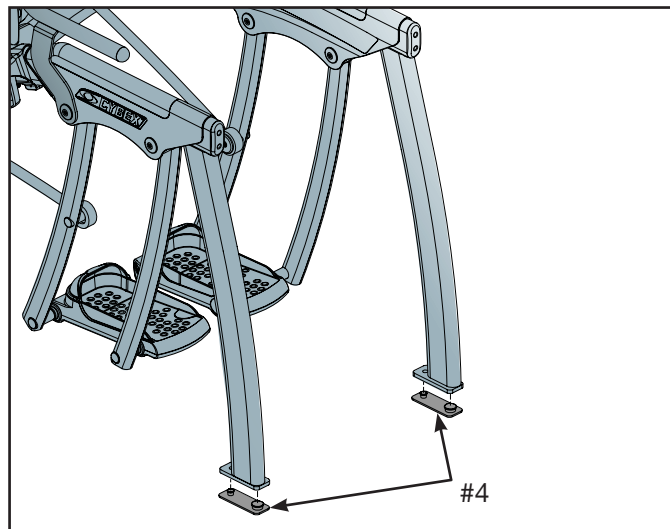

Figure 8
- A. Have one person lift the unit while a second person places a foot cover (#4) under each of the two back feet. See Figure 8.